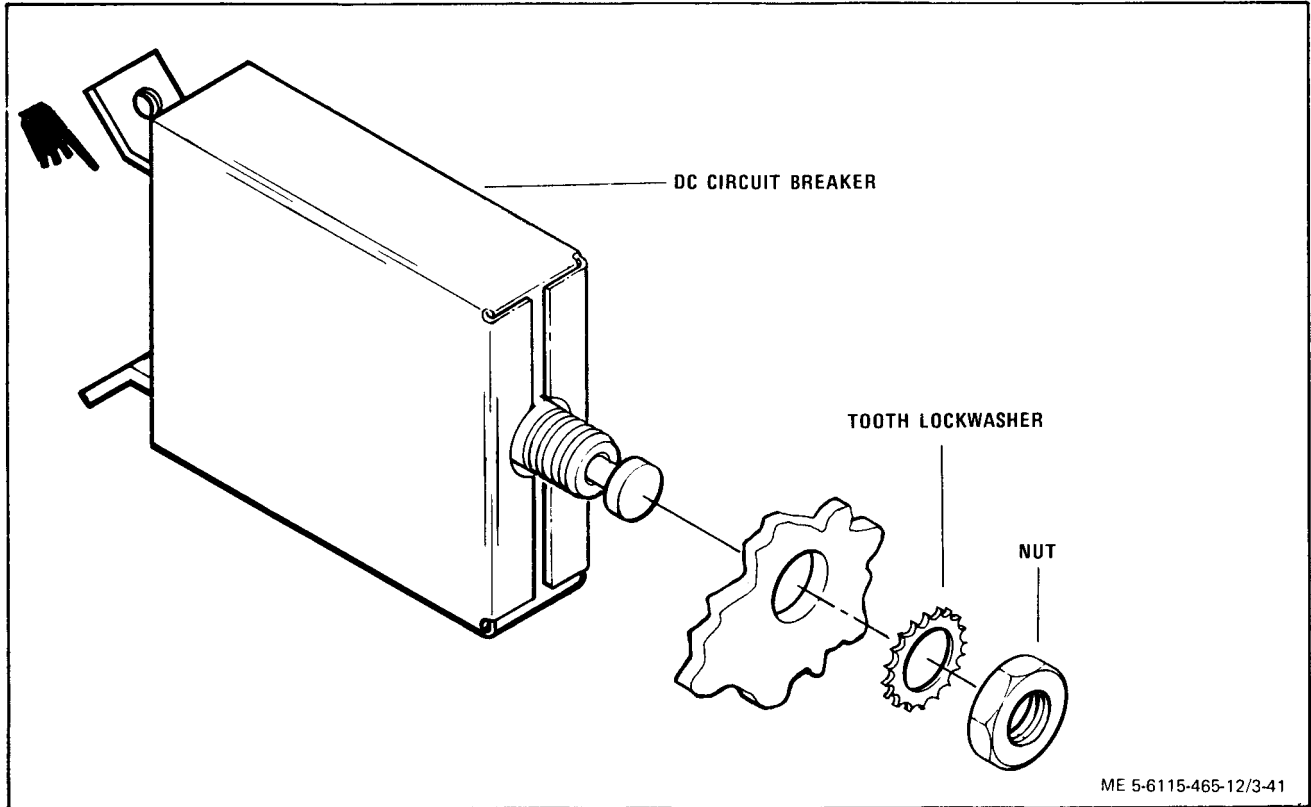

Figure 3-41. DC Circuit Breaker, Removal and Installation
(1) Tag and disconnect electrical leads to DC circuit breaker (figure 3-41).
(2) Remove mounting nut and tooth lockwasher to remove circuit breaker.